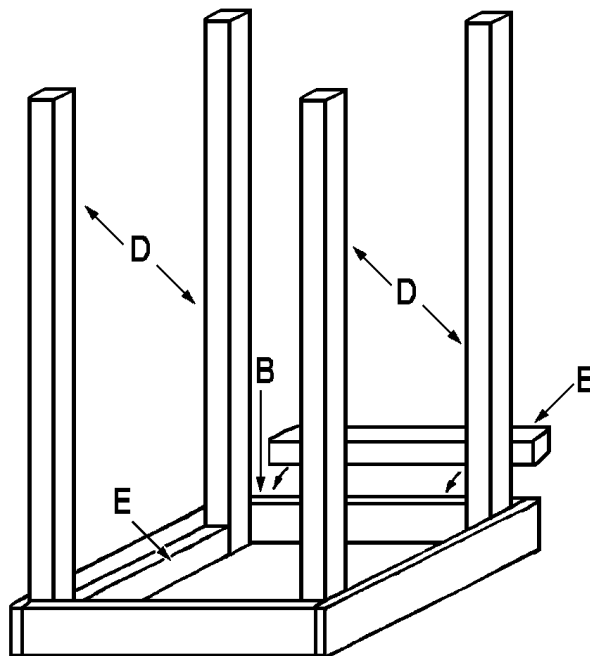

Figure 2
1. Cut four legs (D) from 2 x 2 pine, each 34" long.
2. Turn the laminated top (A) with its attached frame pieces (B and C) upside down on a level surface. Glue and screw one leg (D) in each of the four inside corners of the top as shown in *Figure 2*. Screw through the face of each frame piece (B and C) into the leg (D) using 2"-long screws at each end. The legs are a little wobbly at this point, but they will be reinforced in the next step.
3. Cut four leg reinforcements (E) from 2 x 2 pine, each 7" long.
4. Fit each leg reinforcement (E) between one pair of legs, making sure that each is flush against the top (A) and the frame pieces (B and C). Glue and screw them in place. Use 2"-long screws, and space them about 4 inches apart. Screw through the leg reinforcements (E) and into both the top (A) and the frame pieces (B and C).